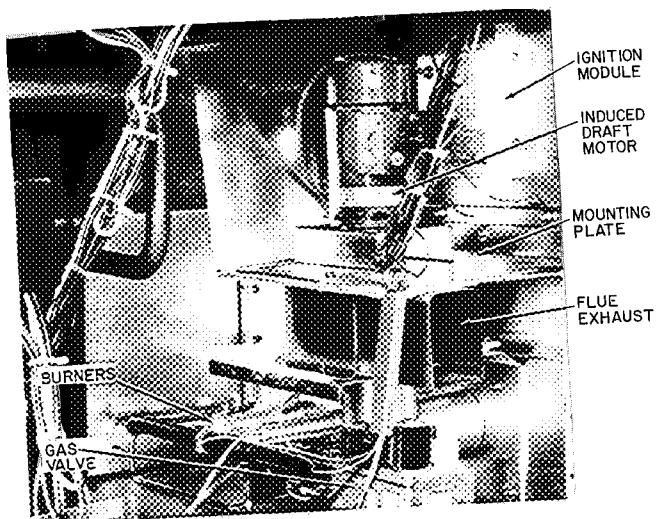

Fig. 20 - Burner Section Details
2. Remove the 5 screws that attach induced draft motor mounting plate to blower housing (Fig. 20).
**Burner Ignition** — Unit is equipped with a direct spark ignition 100% lockout system. Ignition module is located in burner compartment (Fig. 20). Module contains a self-diagnostic LED. During servicing refer to Module nameplate for LED interpretation.
#### REMOVAL OF GAS TRAIN (See Fig. 20 and 21)
#### REPLACEMENT OF GAS TRAIN (Fig. 20 and 21)